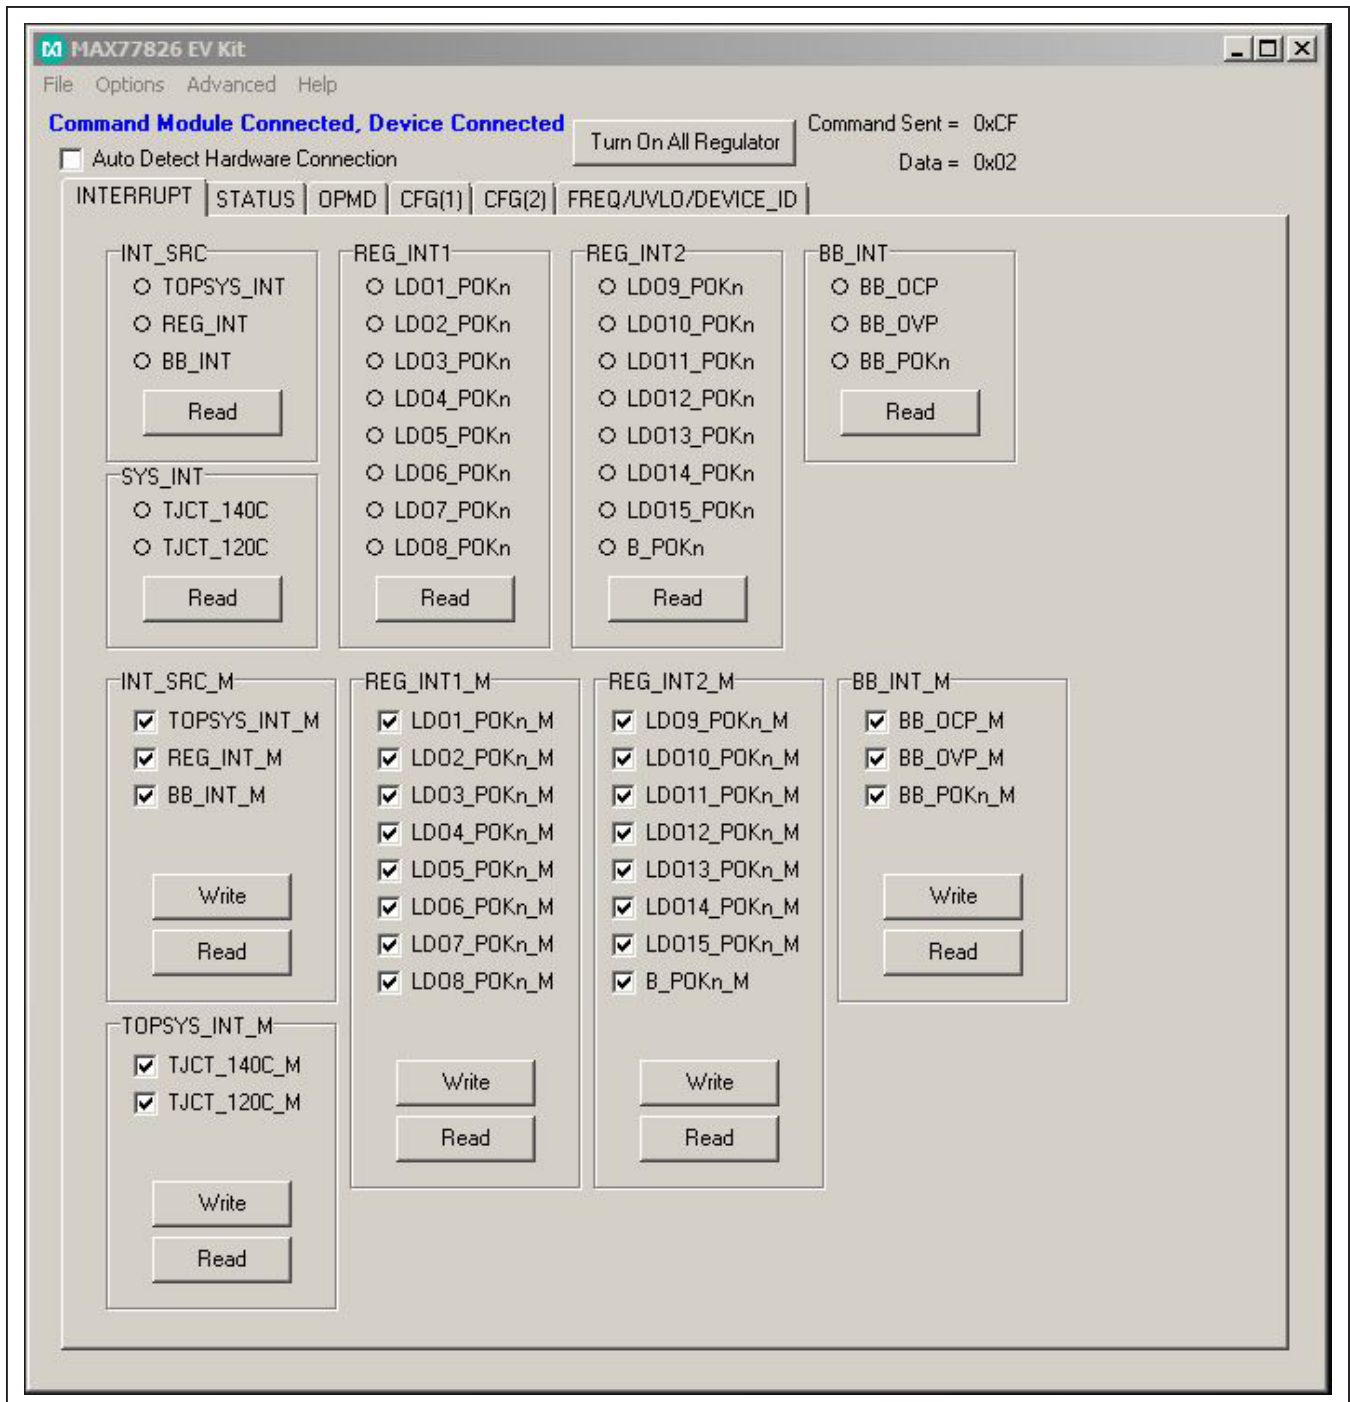

Figure 1. MAX77826 EV Kit Software (INTERRUPT Tab)
- 9) Start the MAX8904 program by opening its icon in the Start | Programs menu. The EV kit software main window appears, as shown in Figure 1.
- 10) Wait until seeing **Command Module Connected, Device Connected** as shown in Figure 1.